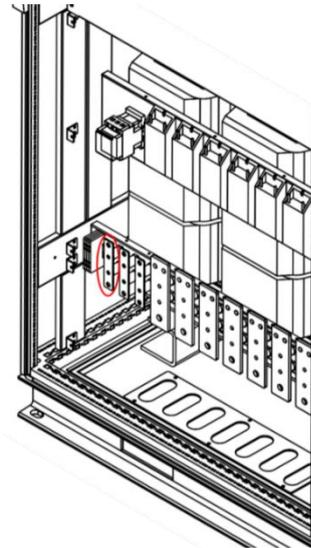

Figure1-7 The wiring copper bar
**B.** Lay the PE cable from the cable hole at the bottom of the cabinet and reliably connect with the connection copper bar shown in Figure 1-7, and ensure both side of PE cable are well grounded. The grounding terminals are connected with the main components, and the users should connect them with the earth through suitable cables before putting them into use.